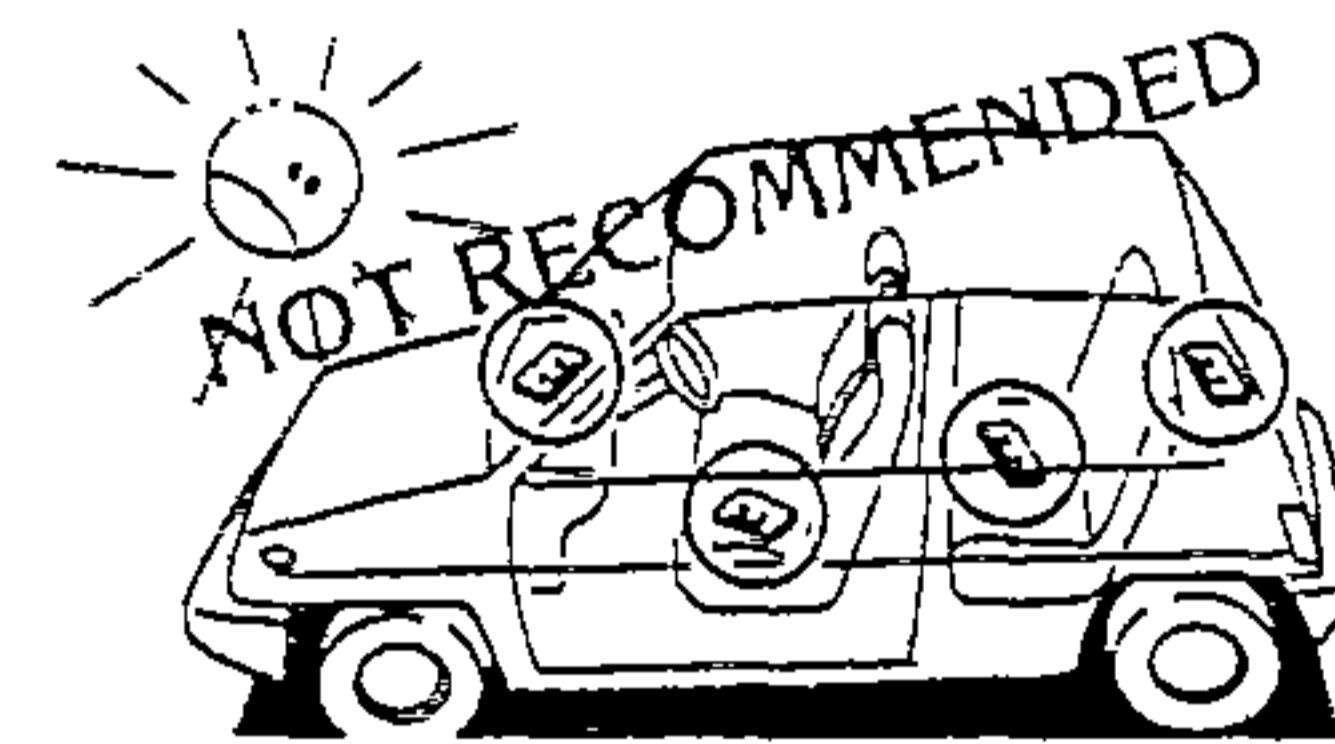

Fig. 9
- Storing cassettes in areas directly exposed to sunlight or high temperatures can distort them and subsequently interfere with tape transport. (Fig. 9)